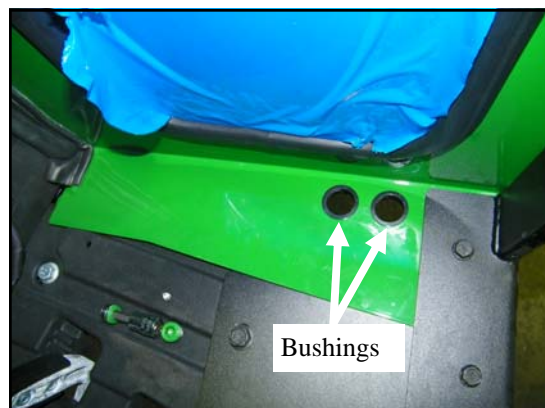

Fig. 3.1
3.1 Per figure 3.1, remove the plastic plugs and install the snap bushings in the right side bottom of the cowl.